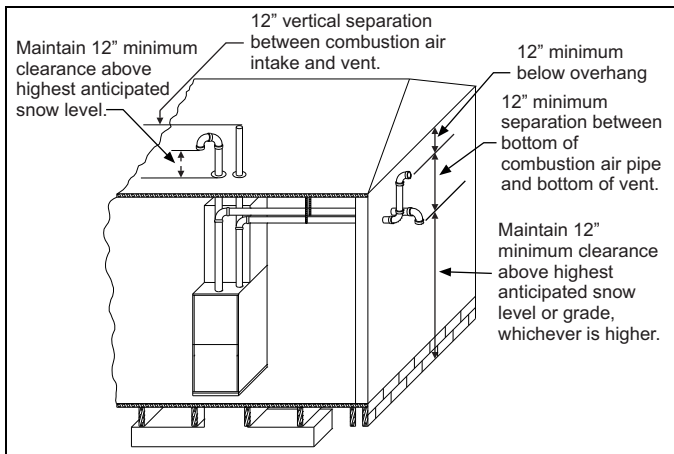
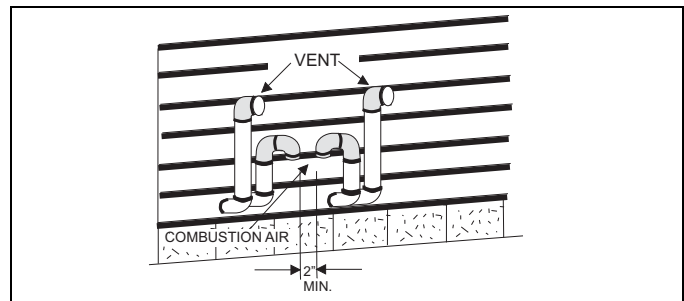

FIGURE 36: Termination Configuration - 2 Pipe
FIGURE 38: Double Horizontal Combustion Air Intake and Vent Termination
7. Direct vent systems must be installed so the vent and the combustion air pipes terminate in the same atmospheric zone. Refer to Figures 36 or 37.
The combustion air side of the two-pipe configuration shown in Figure 36 can be installed so the combustion air pipe terminates as described in outdoor combustion air or ventilated combustion air sections in these instructions. Follow the instructions for outdoor combustion air or ventilated combustion air and the instructions for installing the vent system with the vent terminating as shown in Figures 38 or 39. The two-pipe system must have a separate combustion air pipe and a separate vent pipe for each furnace. Under NO circumstances can the two combustion air or vent pipes be tied together. The combustion air and vent pipes must terminate in the same atmospheric zone.